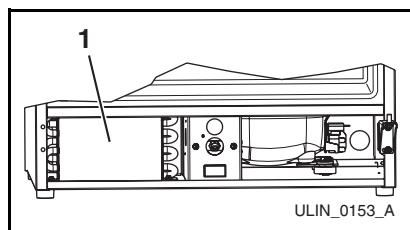

Figure 8
5. Clean the condenser coil (Figure 8, 1) using a soft brush with a "combing" action or vacuum cleaner. Do not touch the condenser coil.